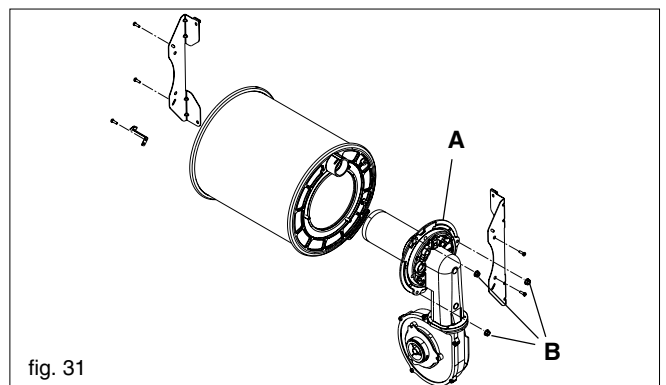

fig. 31
**Fig. 31:** To remove the fan burner assembly (A) locate and remove the 3 external nuts (B). Replace in the reverse order. Ensure all seals are in good condition, taking care to ensure they are replaced correctly.